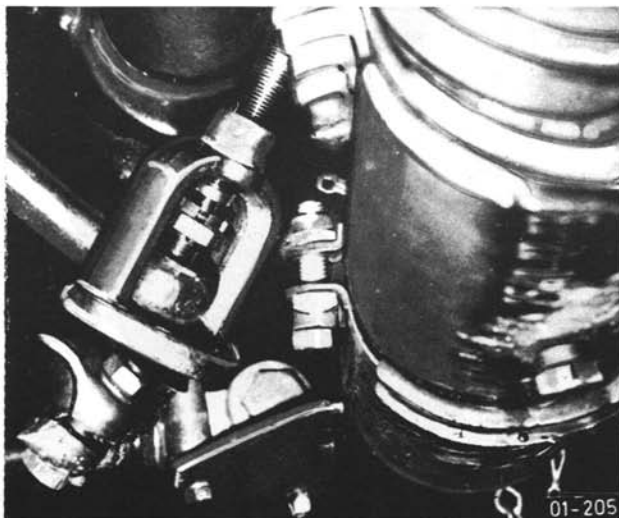

Fig. 46-1/6
9. Loosen torque support. Fig. 46-1/5.